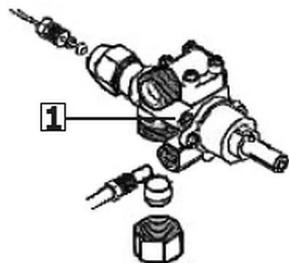

Fig. 11
2. Adjust the minimum flow rate or bypass screw (1, Fig. 11).